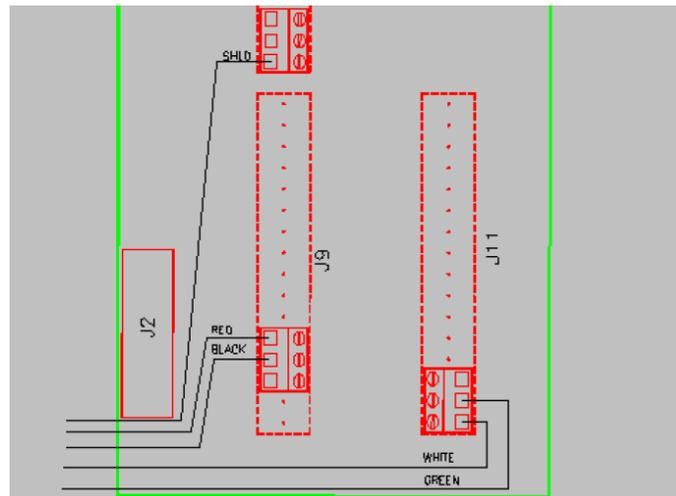

Figure A-10: Wiring
11. Connect the wires to the terminals (Figure A-10) and tighten each terminal screw until snug. Tighten the gland fitting.